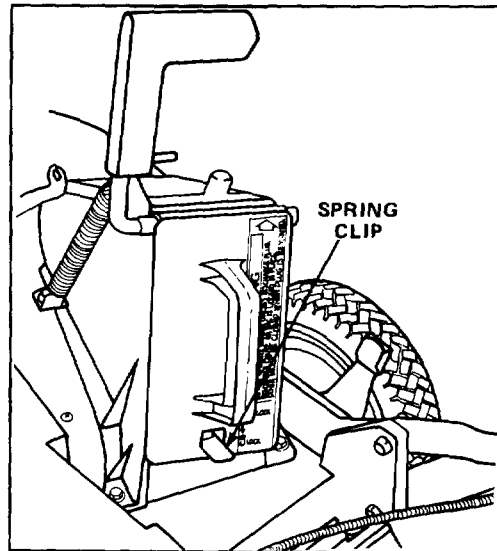

Figure 4
3. Push the plug all the way in until the spring clip on the bottom of the plug clicks into place, locking the plug securely into the discharge tunnel (Fig. 4). Release the discharge door handle to lock top of plug.